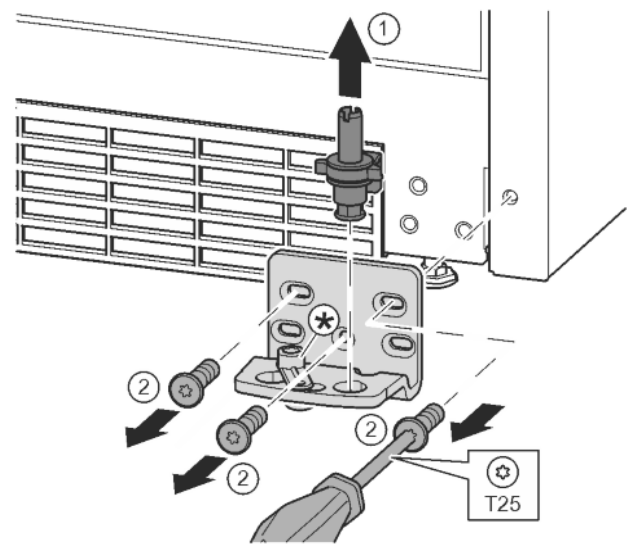

Fig. 14
- ▶ Lift the bearing bolts upwards and remove. *Fig. 14 (1)*
- ▶ Undo the screws with a T25 screwdriver and remove the mounting block. *Fig. 14 (2)*